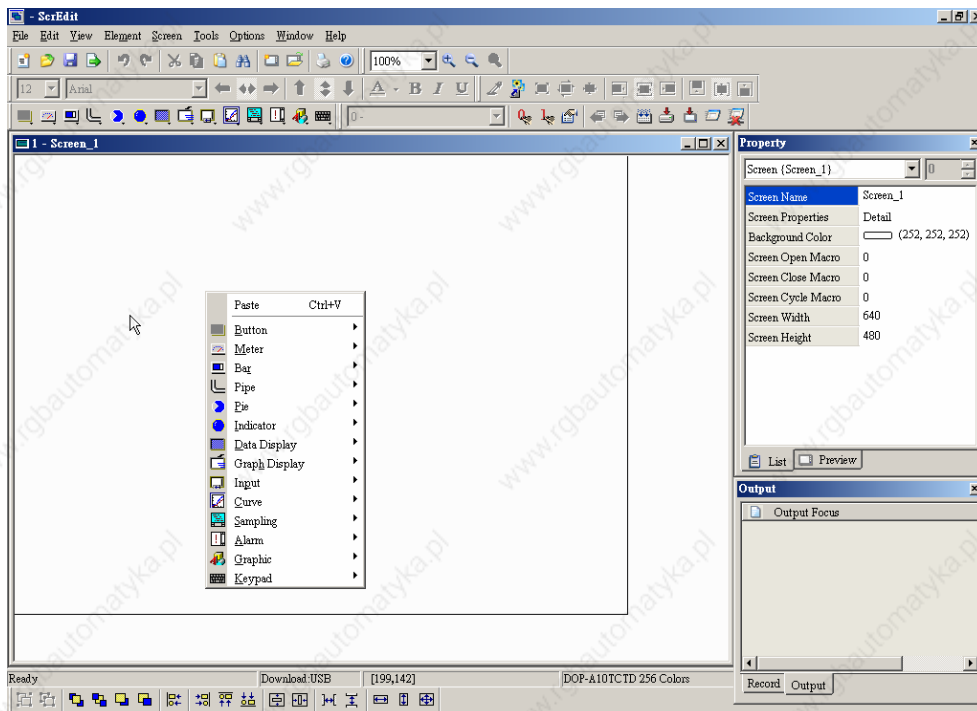

Fig. 3.1.1 Shortcut menu display
1. Right-click the mouse in the work place and a shortcut menu will display as Fig. 3.1.1. The users can choose the desired elements by the mouse.